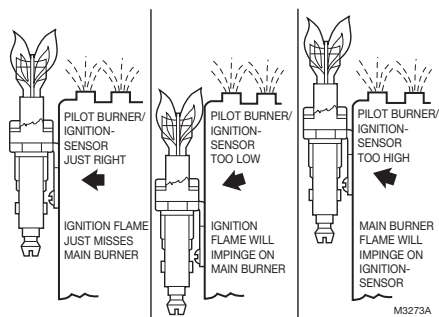

Fig. 2. Location of pilot burner/igniter-sensor.
3. Mount pilot burner/igniter-sensor so the pilot flame remains properly positioned with respect to the main burner flame. See Fig. 2.